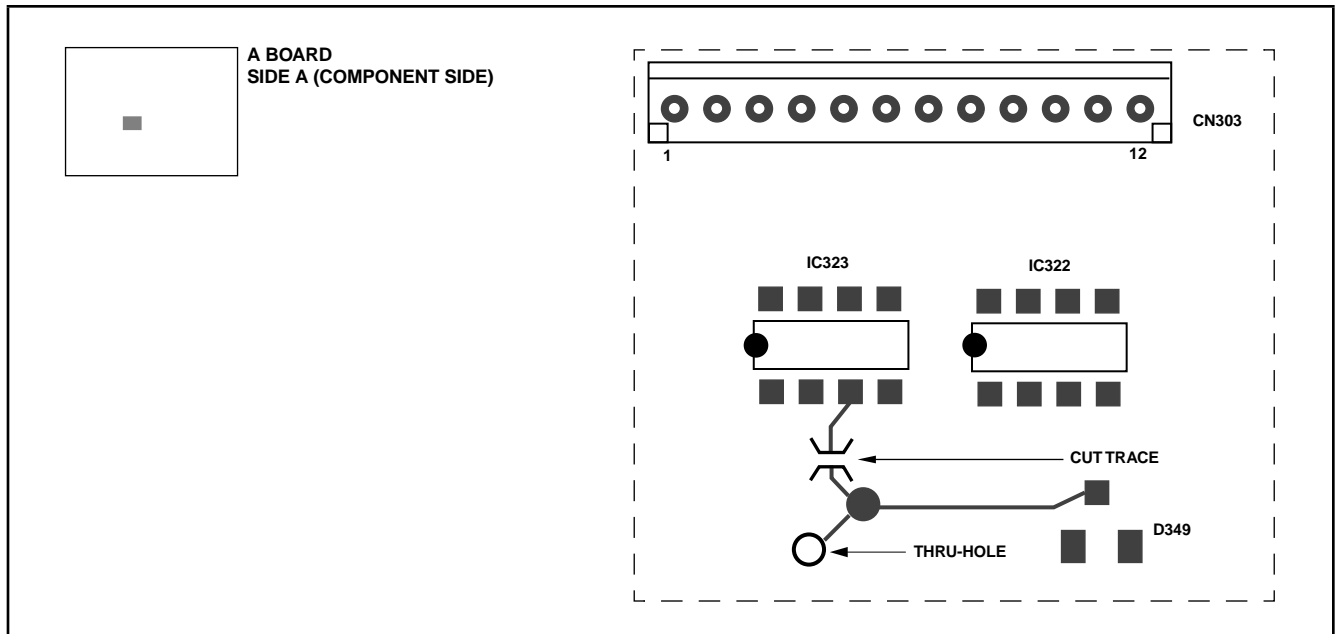

Figure 1
1. Cut trace between IC323-3 and D349 as shown in Figure 1.